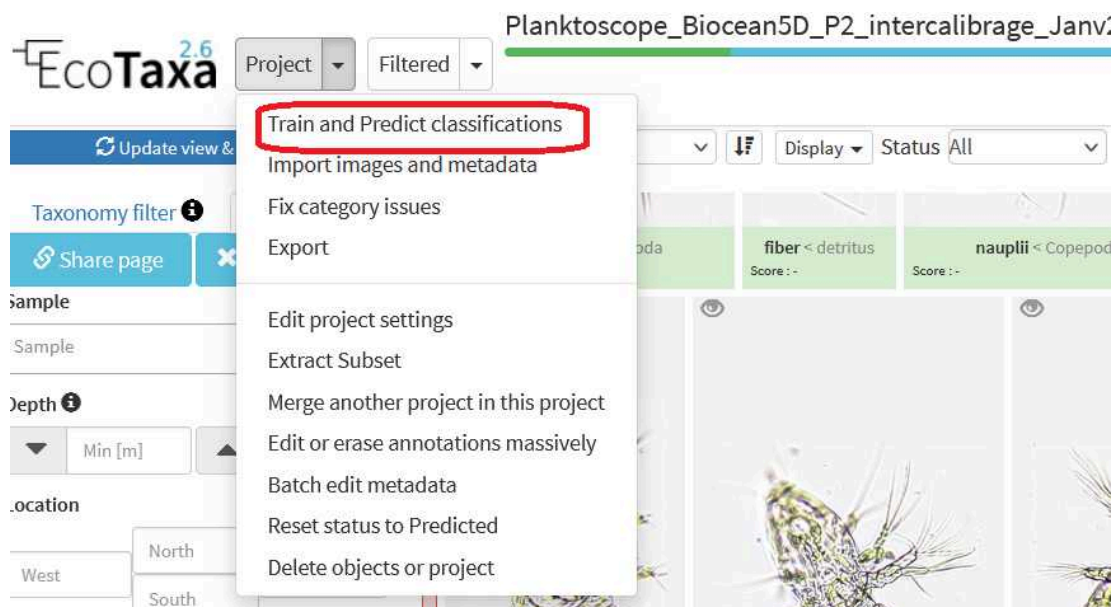

Figure 12: Click on the button "Train and Predict classifications" to start a prediction
- In "Project" (or "Filtered", if only the filtered images need to be predicted), select "Train and Predict classifications" (Fig.12).